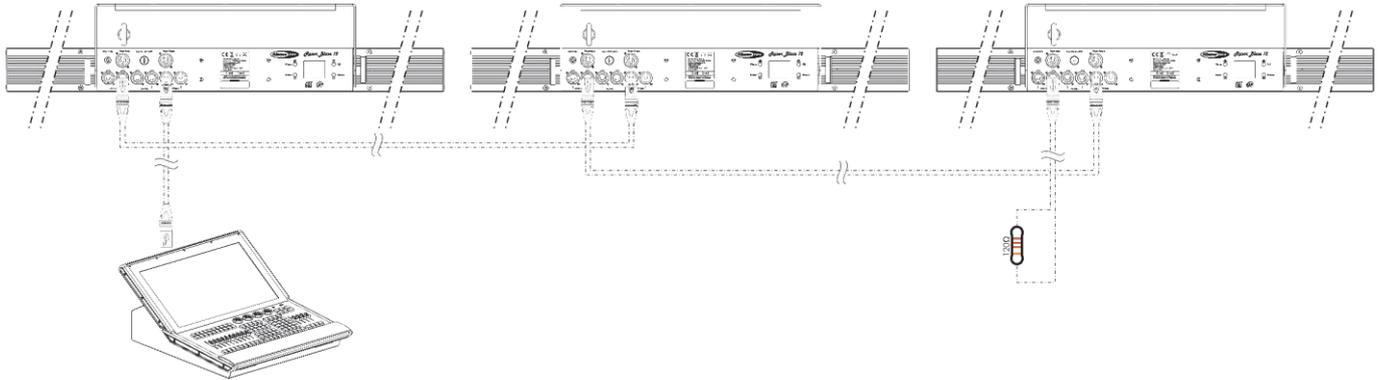

Fig. 09
When you make your own DMX cables, make sure that you connect the pins and wires correctly as shown in Fig. 09.
- 03) Repeat step 2 to connect all devices in a daisy-chain as shown in Fig. 09.